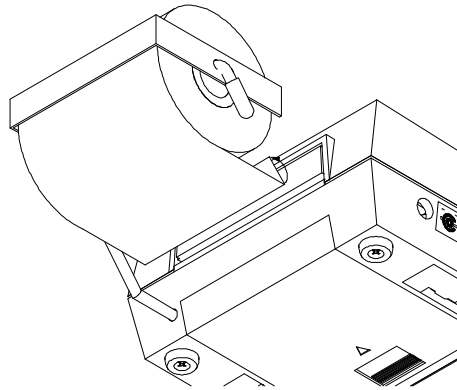

Figure 3-2
2. Fold the end of the thermal paper over creating a straight flat edge as shown in Figure 3-2. This creates a strong edge and allows the paper properly center in the printer when inserting it into the rear paper slot.
3. Insert the paper into the rear paper slot as shown in Figure 3-2. Turn the OM-550 “ON”, then press and hold the “**PAPER FEED**” key to feed the paper through the printer.